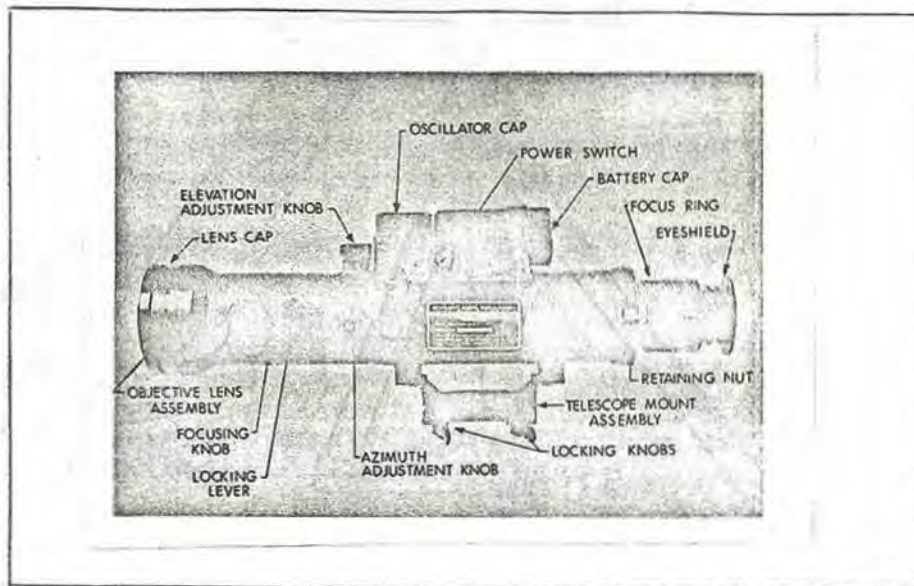

FIGURE 18. OPERATING CONTROLS OF SCOPE
b. Features: Figure 18 shows the essential operating controls of the Starlight Scope. The scope is designed for use on individual weapons such as the M-16 Rifle, M-60 Machine Gun and the M-79 Grenade Launcher.